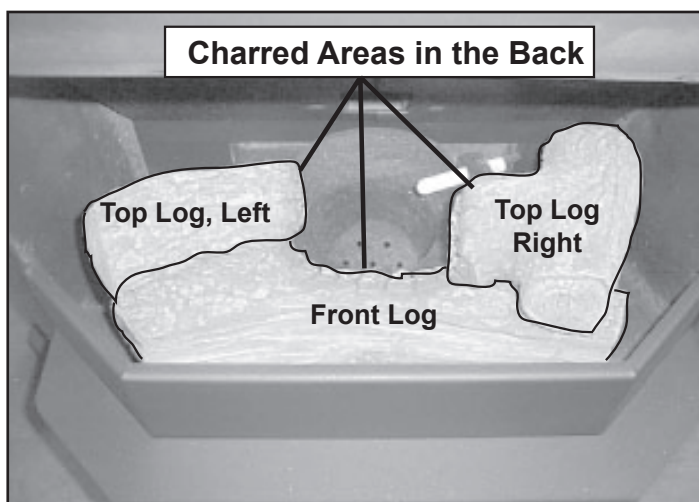

Figure 23.2
2. Set the left and right logs onto the front log, placing the holes in the base of the left and right logs over the locating pins in front log. See **Figure 23.2**. Ensure that the charred ends are facing the fire pot.